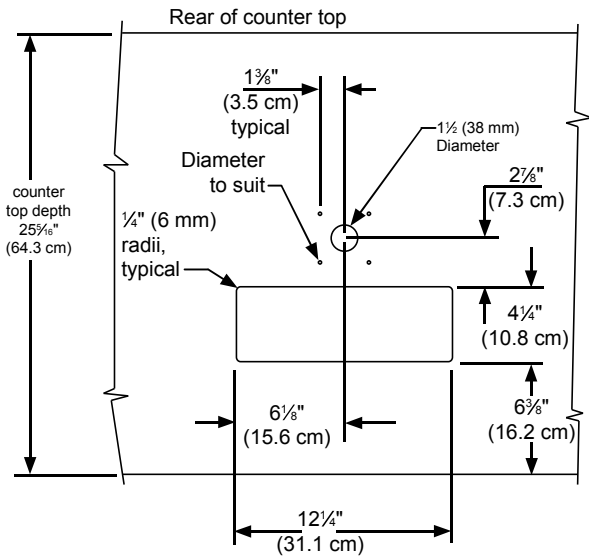

Figure 24
The cutout dimensions shown in Figure 24 are based on a $25\frac{5}{16}$ " (64.3 cm) deep counter top. Your counter top may be different than this and require other front to back dimensioning. Refer to the product dimensions on page 8 when determining the required dimensions.
- If you are installing your keg refrigerator under a counter you will need to drill 5 holes in the counter top to mount the tower. The first hole is a $1\frac{1}{2}$ " diameter hole located at the center of the tower for the beer line, locate approximately $13\frac{1}{2}$ " (34.3 cm) from the front edge of the counter top (based on a counter top depth of $25\frac{5}{16}$ "). Next drill the 4 tower mounting holes per the dimensions in Figure 24. The hole diameter is dependent on the counter top material and if screw anchors are required. The screws supplied are in the literature pack and are a #10 x 1" type AB stainless steel screw. Mark and cut the rectangular cutout for the drain sump. After the holes are drilled and the keg refrigerator is in place under the counter top feed the beer line through the tower gasket, the $1\frac{1}{2}$ " hole in the counter top and the hole in the top of the keg refrigerator. Mount the tower to the counter top with the 4 screws provided. Place the counter top drain sump, from the literature pack, in the rectangular hole with the radius cutout to the rear around the tower and place the grate in the sump.